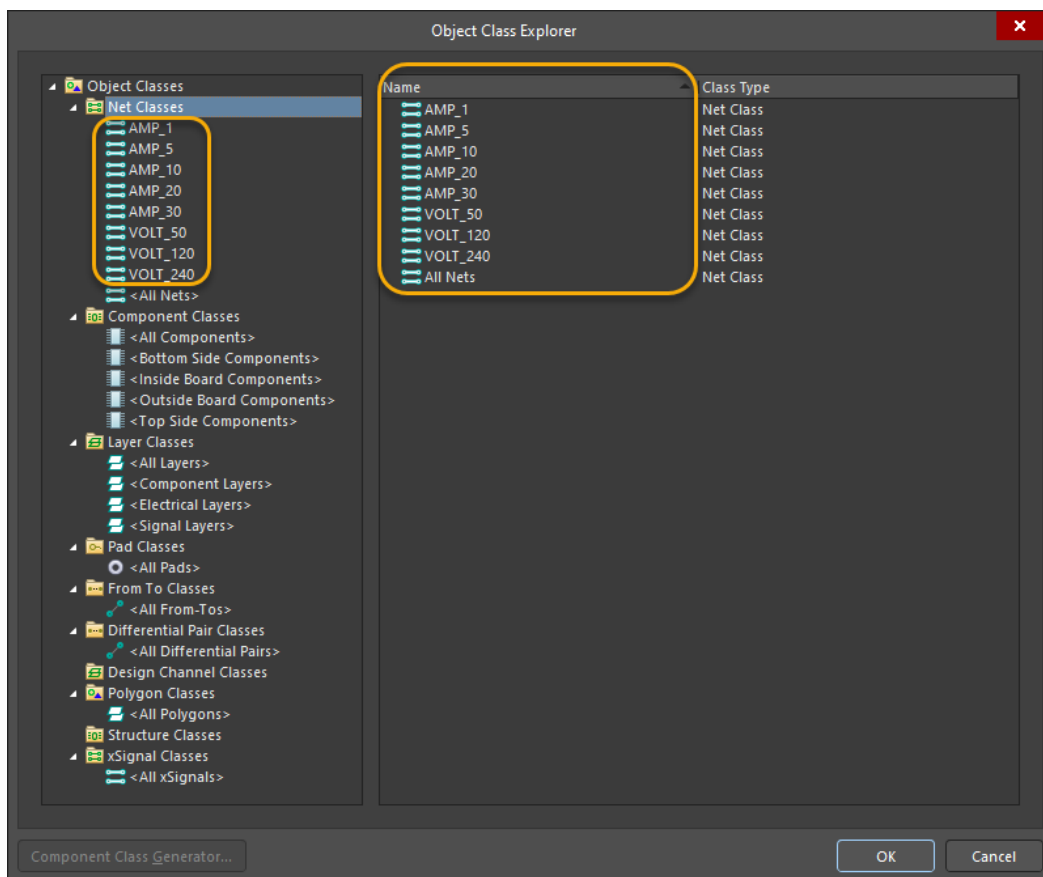

Figure 1. Object Class Explorer, note the pre-defined classes Amp and Volt
10. Access the command **Design » Classes** to open the *Object Class Explorer*, and click the *All Nets* entry, as seen in Figure 1.